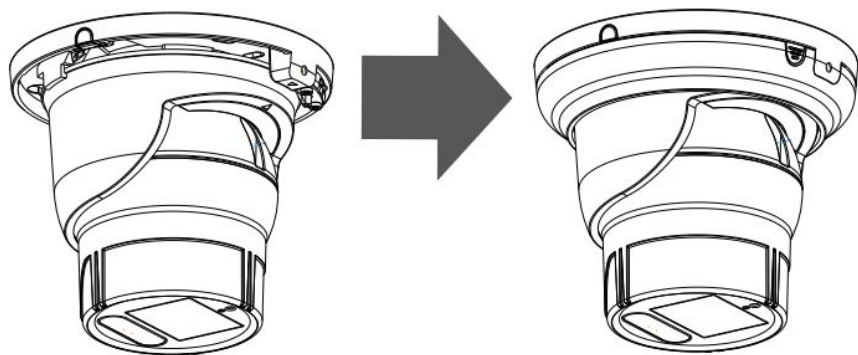

Figure 1-5
Step 4 Push and reinstall vanity cover. See Figure 1-5.